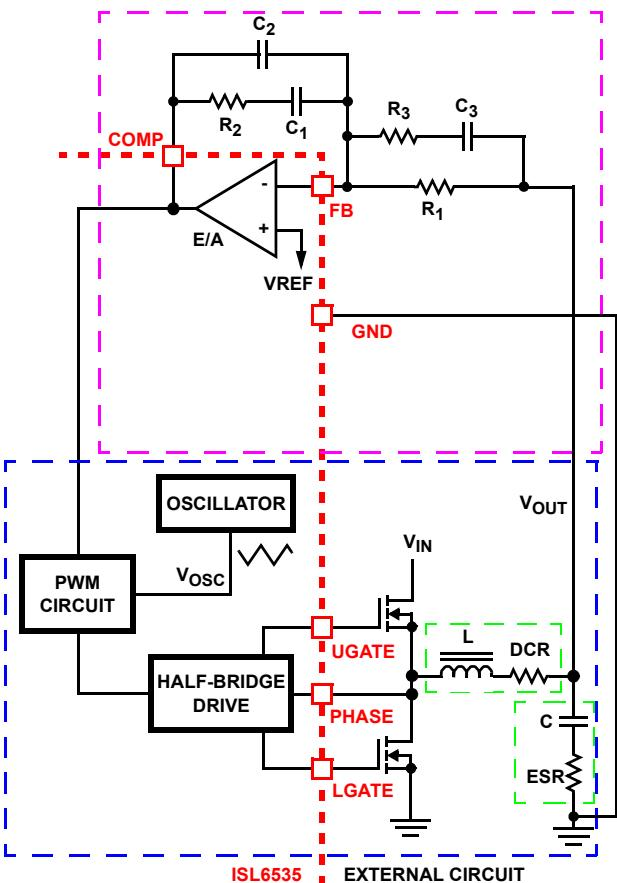

FIGURE 7. VOLTAGE-MODE BUCK CONVERTER COMPENSATION DESIGN
Figure 7 highlights the voltage-mode control loop for a synchronous-rectified buck converter. The output voltage is regulated to the reference voltage level. The error amplifier output is compared with the oscillator triangle wave to provide a pulse-width modulated wave with an amplitude of  $V_{IN}$  at the PHASE node. The PWM wave is smoothed by the output filter. The output filter capacitor bank's equivalent series resistance is represented by the series resistor ESR.
1. Select a value for  $R_1$  ( $1k\Omega$  to  $10k\Omega$ , typically). Calculate value for  $R_2$  for desired converter bandwidth ( $F_0$ ). If setting the output voltage to be equal to the reference set voltage as shown in Figure 7, the design procedure can be followed as presented. As the ISL6535 supports 100%